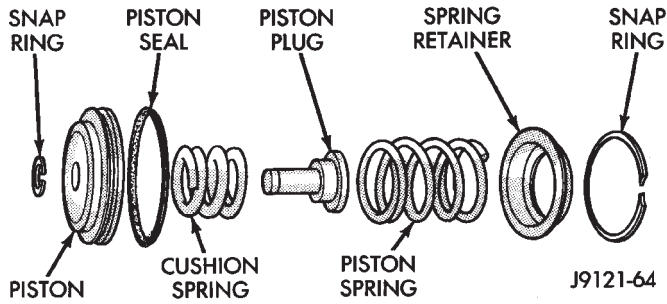

Fig. 120 Rear Servo Components
(1) Remove small snap ring and remove plug and spring from servo piston (Fig. 120).
(2) Remove and discard servo piston seal ring.